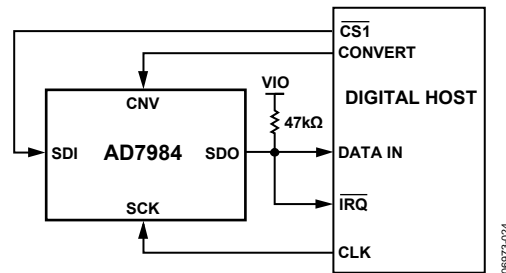
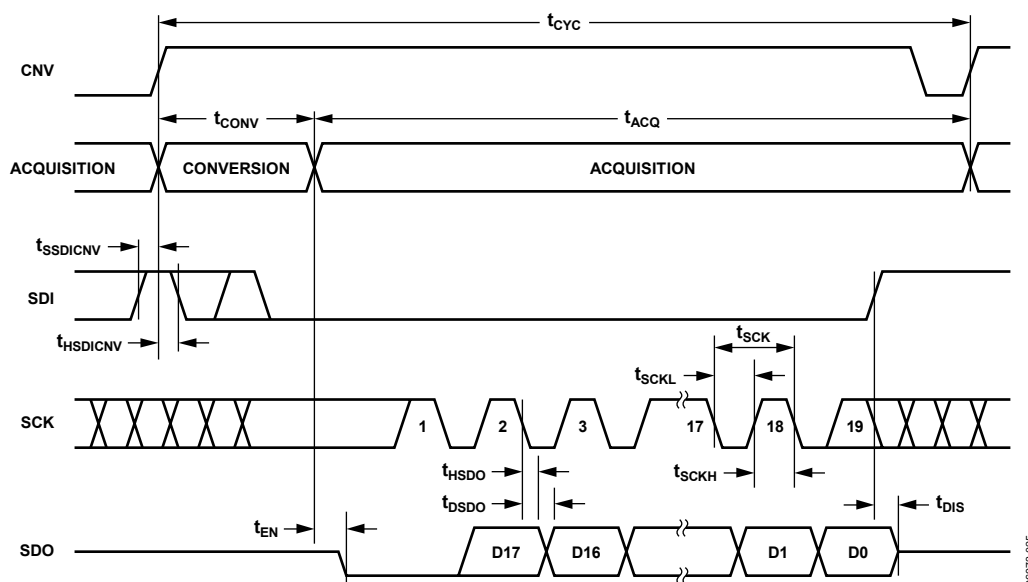

Figure 34. $\overline{\text{CS}}$ Mode, 4-Wire with Busy Indicator Connection Diagram
Figure 35. $\overline{\text{CS}}$ Mode, 4-Wire with Busy Indicator Serial Interface Timing
- In \overline{CS} mode if CNV or SDI is low when the ADC conversion ends (see Figure 31 and Figure 35).
The connection diagram is shown in Figure 34, and the corresponding timing is given in Figure 35.